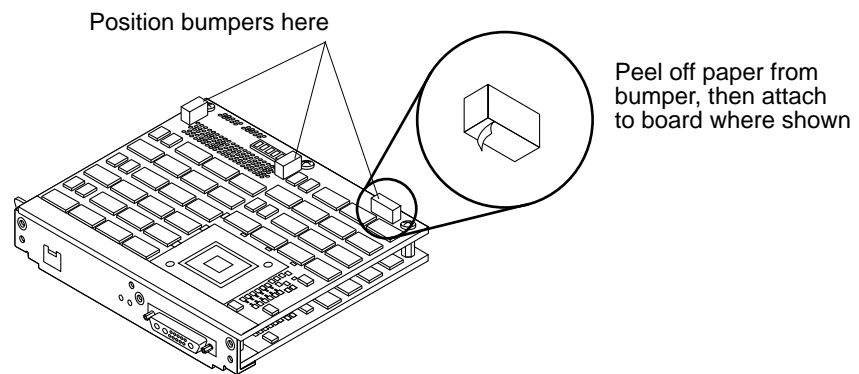

Figure 3-6 Installing the Bumpers on the ZX Board
- 2. Install three bumpers on the ZX Board as shown in Figure 3-6.**